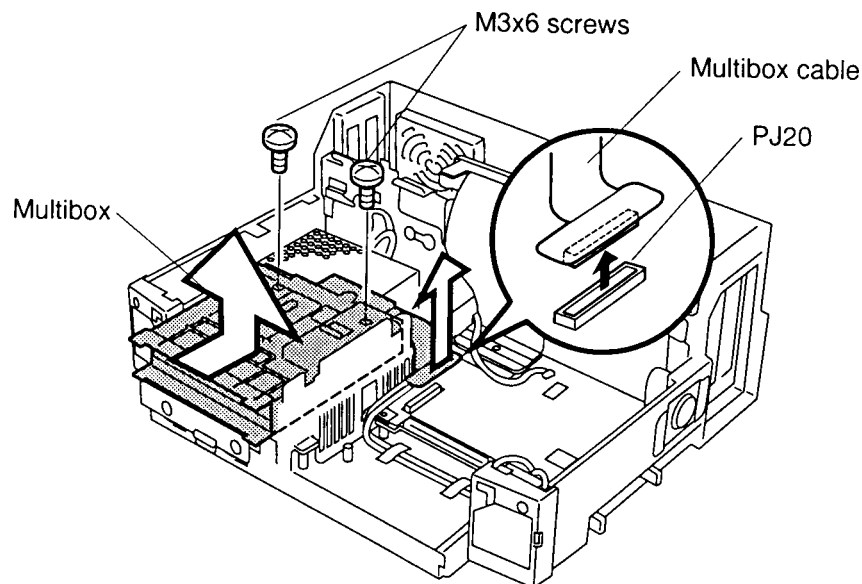

Figure 4-19 Removing the multibox
To remove the multibox, follow the steps below and refer to figures 4-19 and 4-20.
4. Disconnect the **multibox cable** from **PJ20** on the **system board** (Figure 4-19).
To install the multibox, follow the steps below and refer to figures 4-19 and 4-20.